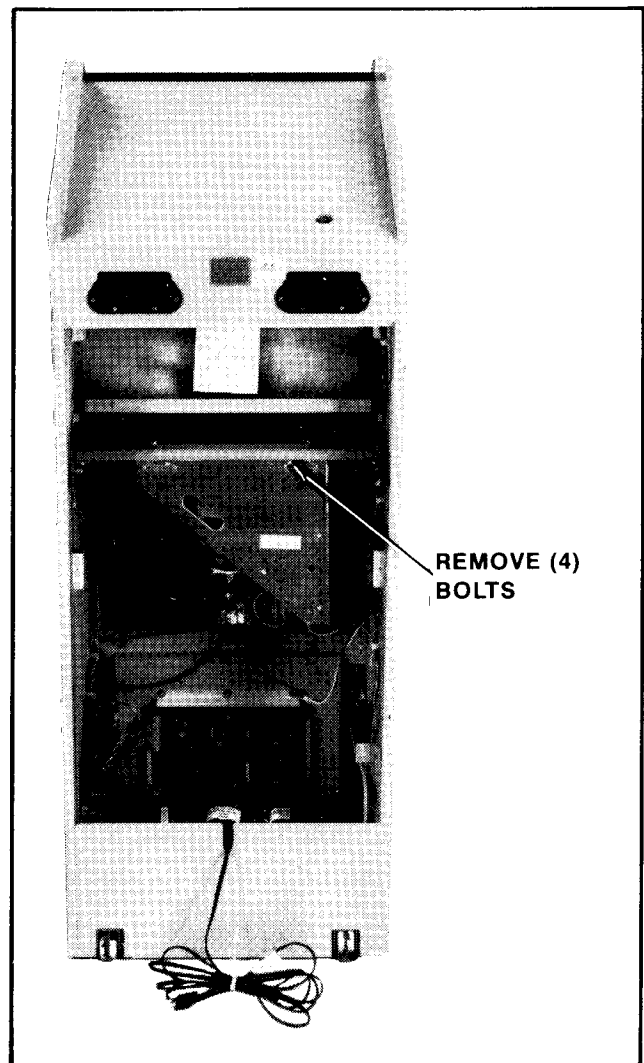

Figure 4-7 Removing the Monitor — Upright
1. **UPRIGHT MODEL:** See Figure 4-7.
The monitor mounting channels slide on top of and against two metal guides mounted to the cabinet's right and left sides. The monitor is removed by sliding it out the back of the cabinet. See Figure 4-7.